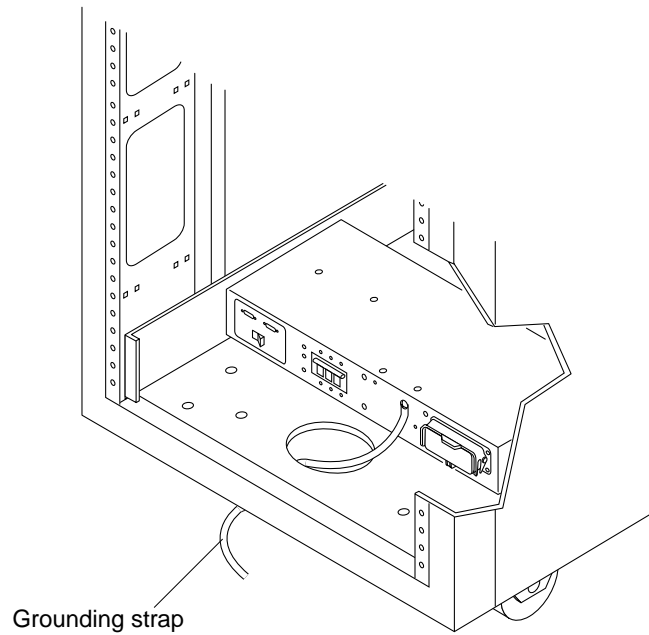

FIGURE 4-4 Connecting the Grounding Strap to the Front Power Sequencer
- 2. Screw one end of the grounding strap to the power sequencer on the system cabinet or on a cabinet that is grounded nearest to the storage system (FIGURE 4-4 on page 4-7).**
3. Screw the other end of the grounding strap to the front power sequencer in the storage system (FIGURE 4-4).